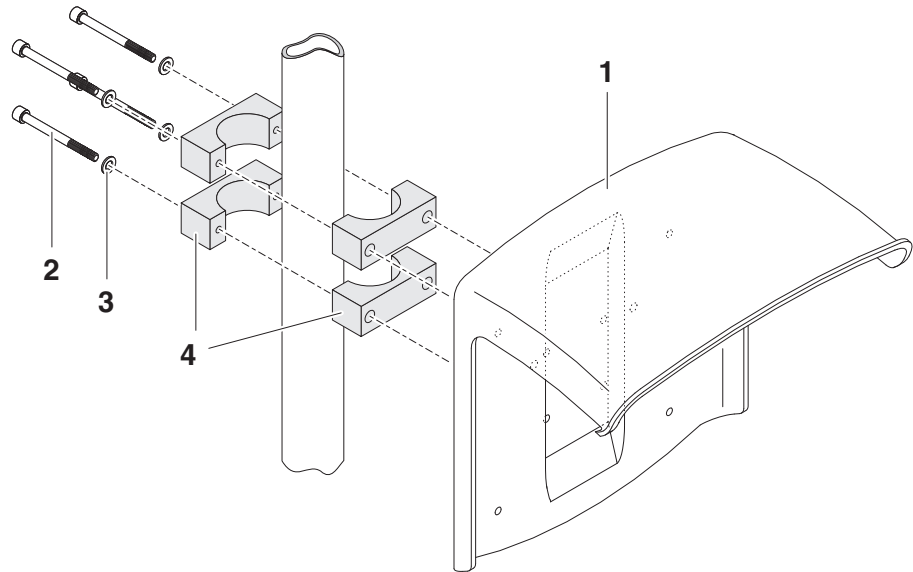

Fig. 3-3 Mounting the SSH/IQ sun shield on a mounting stand
- 1 Screw the sun shield (pos. 1 in Fig. 3-3) with the four hexsocket head screws (pos. 2), the washers (pos. 3) and the clamps (pos. 4) at the required height on the mounting stand from the back.